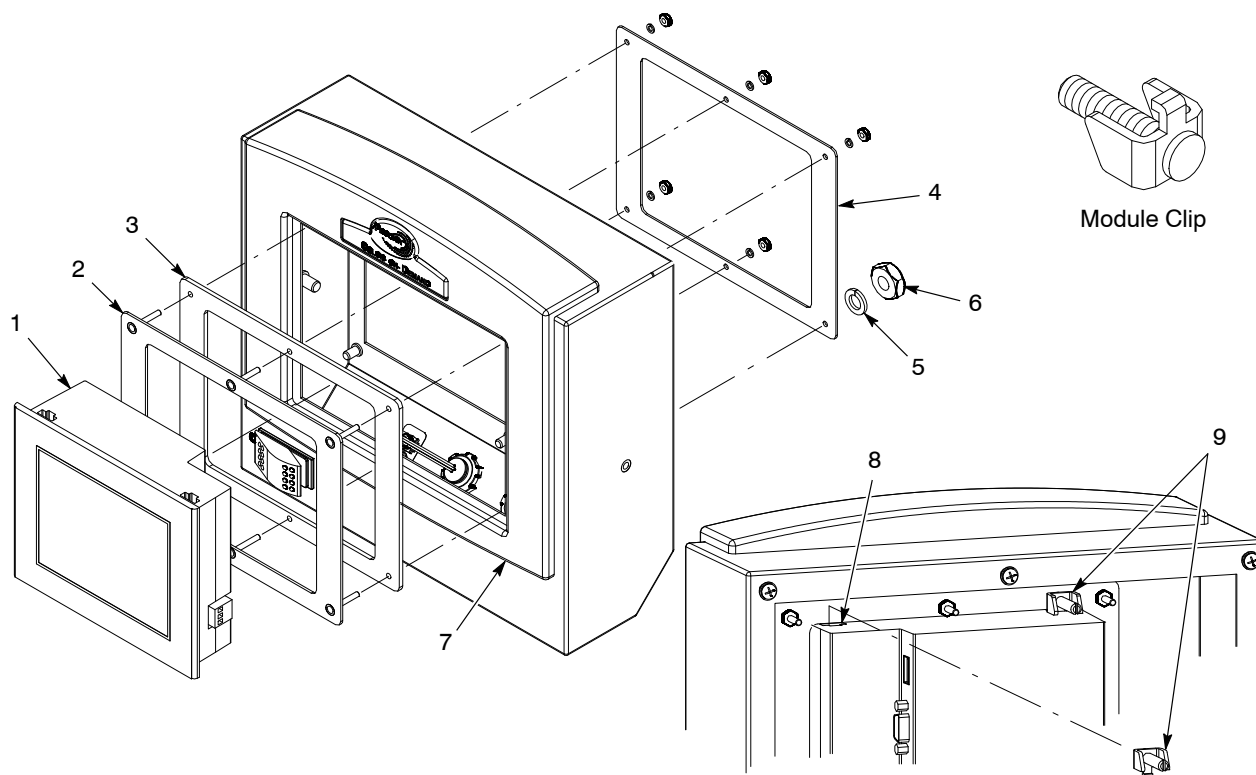

Figure 2 Installing New Display Module
1. See Figure 2. Remove the adhesive liner from the gasket (3), then install the gasket over the front adapter plate (2) studs with the adhesive side against the plate.
2. Install the front adapter plate inside the bezel (7). Install the rear adapter plate (4) into the enclosure and over the front adapter plate studs.
3. Install the lockwashers (5) and nuts (6) on the studs and tighten them securely to compress the gasket and clamp the adapter plates to the enclosure.
4. Install the display module (1) through the front adapter plate.
5. Six mounting clips are included with the display module. Make sure the studs are threaded up all the way against the clip brackets on four clips (9).
6. Insert four of the six clip hooks included with the module into the slots (8) in the top and bottom of the display module.
Refer to Figure 2.